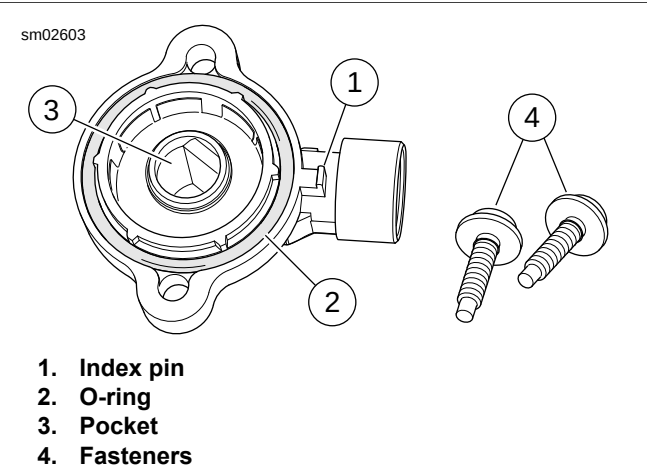

Figure 4-14. Throttle Position Sensor Installation
1. See Figure 4-14. Replace O-ring (2) if necessary.
2. Fit pocket (3) of throttle position sensor over throttle shaft while engaging index pin (1) with hole on machined flange of induction module.
3. Install two **new** fasteners (4) to fasten throttle position sensor to induction module. Tighten screws to 18 **in-lbs** (2.0 Nm).